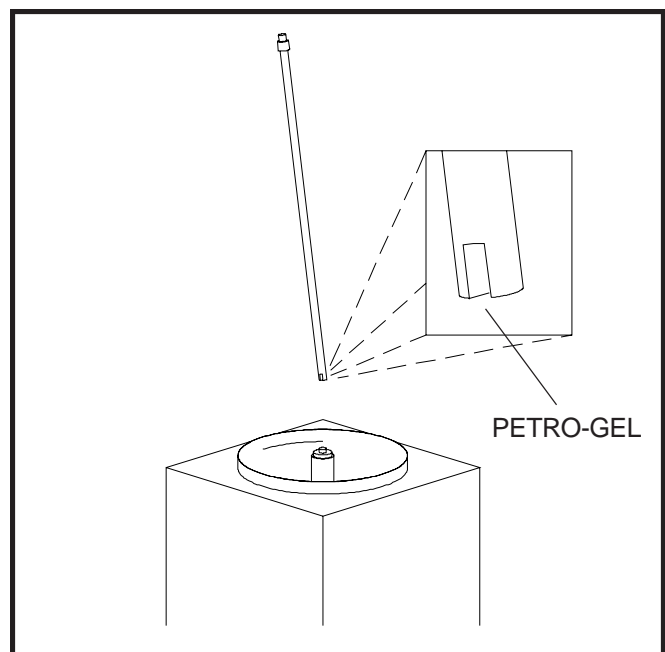

Figure 24. Lubricating Drive Shaft
1. Before installing the drive shaft, lubricate the bottom with Petro-Gel or any other type of sanitary lubricant. Enough lubricant must be applied to create approximately a 1/8 inch bulge at the bottom of the drive shaft (Fig.24).